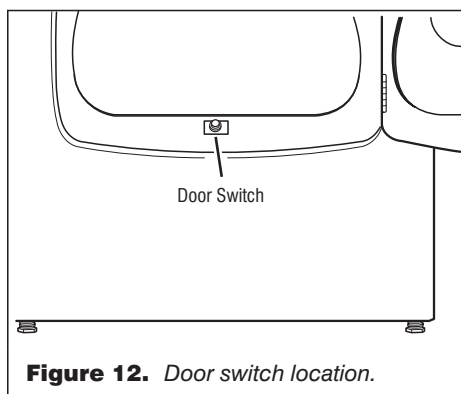

Figure 12. Door switch location.
- Check that the wires between the door switch and machine control electronics are connected. See figure 12 for switch location and see Removing the Front Panel/Drum Assembly, page 10.